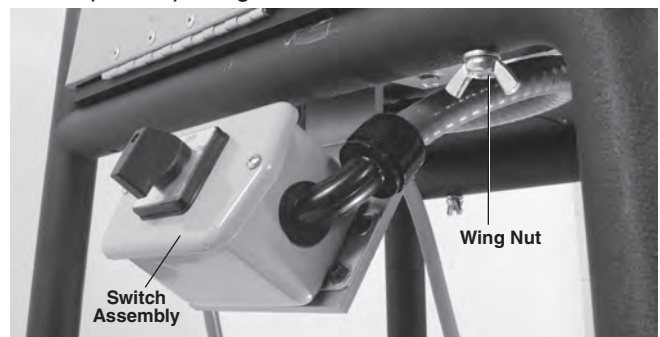

Figure 5 – Mounting Roll Groover to Stand
4. Mount the roll groover/base assembly to the stand using four (4) $\frac{3}{8}$ " – 16 x 2½" hex screws, washers and wing nuts (Figure 5). Carefully place the switch assembly under the stand rail. Movement of the stand legs may be required to align the base assembly.